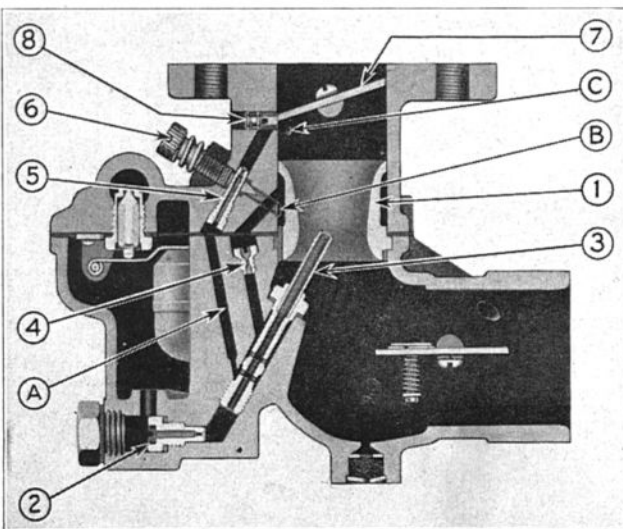

Figure 1
The removable Venturi (1) (see Figure 1) measures the volume of air which passes through the carburetor. In selecting the venturi, it is best to use the smallest size which will permit full power development.
**MAIN JET SYSTEM:** The Main Jet (2), often referred to as the "high speed jet," exerts its principal influence at the higher engine speeds. Fuel from the bowl is metered through the Main Jet (2) and discharged into the air stream through the Main Discharge Jet (3).
Figure (2) shows the position of the throttle shaft (9) at closed throttle. At this point no suction is transmitted to the bowl, because the channel (C) (see Figures 1 and 2) is below the throttle plate (7), thus permitting a full flow of fuel through the idling system.